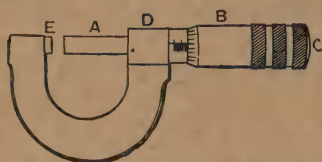

Fig. 7.—Micrometer Set for $\cdot 178$ of an inch
How to Read a Micrometer.—In the micrometer shown by Fig. 7, the spindle A is attached to the thimble B at the point C, and the part of the spindle which is concealed within the sleeve is threaded to fit
as the instrument is shown in Fig. 7, seven divisions are supposed to be visible on the sleeve. Multiply this number (7) by 25, and add 3, the number of divisions shown on the bevel of the thimble. The micrometer is open to one hundred and seventy-eight thousandths ($7 \times 25 = 175 + 3 = 178$).